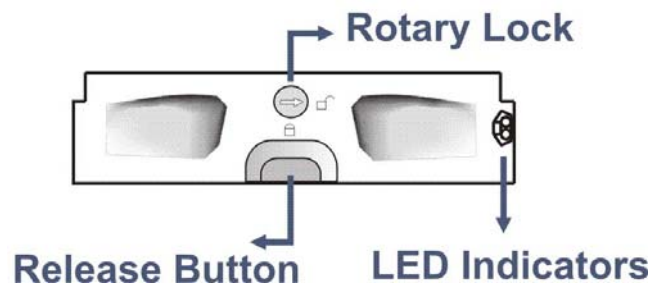

Figure 1-6: Drive Tray Front View
The SecurStor 16I subsystem comes with sixteen (16) drive trays (see *Figure 1-6*) designed to accommodate separately purchased, standard 1-inch pitch, 3.5-inch SATA-II disk drives. The drive bays are accessible from the enclosure front panel. Two (2) LEDs on the front bezel indicate the operating statuses. A key-lock on each drive tray secures the hard drive in place, while a release button enables fast retrieval of a hard drive.